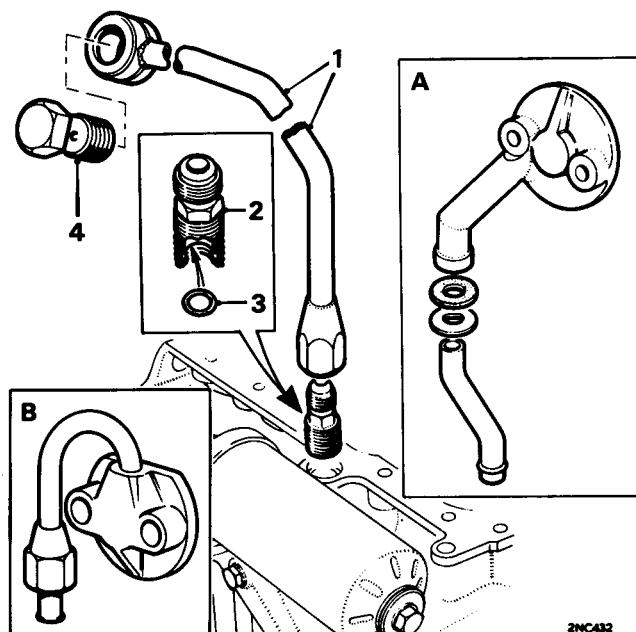

Fig. Aa.9
14. Remove the oil filter assembly and disconnect the engine oil feed pipe together with (on early units) its rubber seal and spring washer (see Fig. Aa.9).
19. Refit the transmission to engine oil feed pipe (both types of pipe assemblies are shown in Fig. Aa.9).